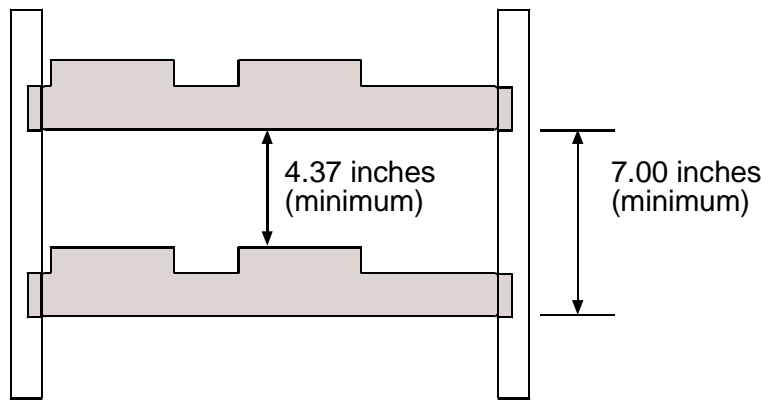

Figure 5-6. Spacing Requirements
2. Position Access Navigator in equipment rack slot (refer to office records). Ensure that there is at least 4.37 inches (2.5 rack units) of free air space above and below chassis for cooling (see Figure 5-6 on page 5-10).